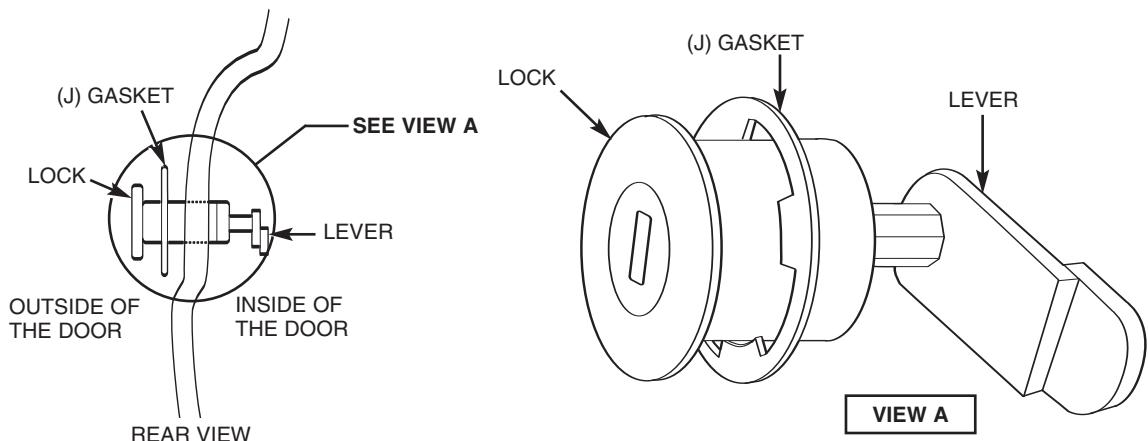

FIGURE 7
18. (Refer to Figure 7). Install the completed lock to the door. Place the provided gasket (J) between the head of the lock case (E) and the sheet metal